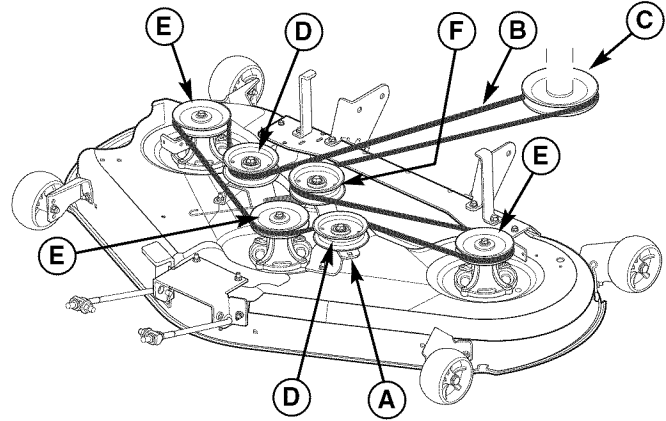
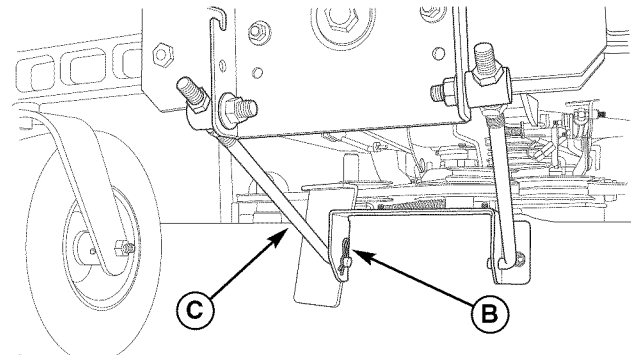

Figure 13. Mower Belt Routing
Figure 14. Mower Hitch Components
3. Insert ratchet into 3/8" (9.5 mm) square in idler pulley arm (A, Figure 13) and pull to release belt tension. Remove the mower belt (B) from engine drive pulley (C).
9. Remove the hair pin clip (A, Figure 14) securing the rear mower lift arm. Separate the lift arm from the mower deck. Repeat for both sides of mower.
10. Remove hair pin clip (B) securing the front hitch rod (C). Separate the front hitch rod from the mower deck. Repeat for both sides of mower.
1. Slide the mower deck under the right side of the rider. Slide the mower forward and hook the front hitch rod (C, Figure 14) to the front mower deck hooks.
2. Install the front hitch rods and secure with hair pin clips (B).
3. Slide the mower deck backwards and connect the rear lift arms to the mower deck. Secure with hair pin clips (A).
7. Insert ratchet into 3/8" (9.5 mm) square hole in idler pulley arm (A, Figure 13) and pull to release belt tension. Install the mower belt (B) as shown in Figure 13.